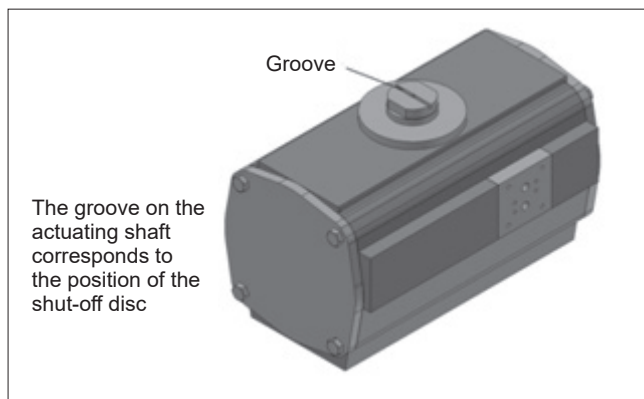

Fig. 6
- If you are fitting the actuator to a Neles butterfly valve, make sure that the groove on the actuating shaft corresponds to the position of the shut-off disc (see Figure 6).